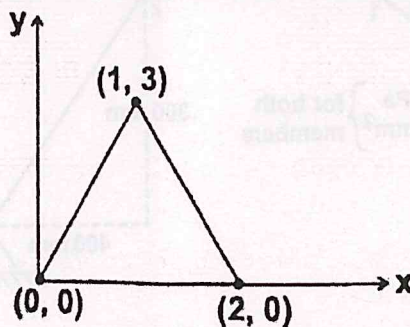

Figure 14 (a)
14. (a) Calculate the thermal force vector for the plane stress element shown in Figure 14 (a). The element experience a  $10^\circ\text{C}$  increase in temperature. Assume Young's modulus  $E = 15 \times 10^6 \text{ N/cm}^2$ , Poisson's ratio  $\mu = 0.25$ , coefficient of thermal expansion  $\alpha = 6 \times 10^{-6} \text{ cm/cm}^\circ\text{C}$  and the element thickness  $t = 0.5 \text{ cm}$ . All coordinates are in centimeters.